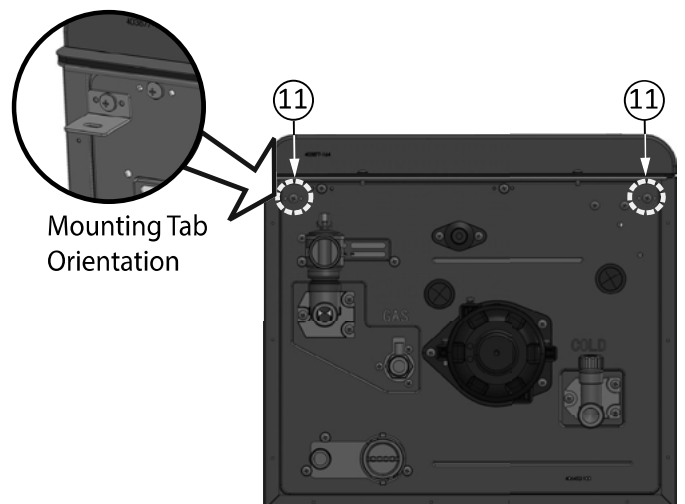

Figure 1. Attaching the mounting tabs
1. Remove and keep the screw on the bottom, left-hand side of the water heater case. See Figure 1.
2. Attach the mounting tabs ⑪ to the bottom, left-hand side of the water heater using the screw removed in step 1. Note the orientation of the mounting tab. See Figure 1.
4. Attach the second mounting tab ⑪ to the bottom, right-hand side of the water heater using the screw removed in step 3. Note the orientation of the mounting tab. See Figure 1.
10. Locate the mounting tabs (11) installed earlier on the bottom front of the water heater. (See Figure 1 and 3.)